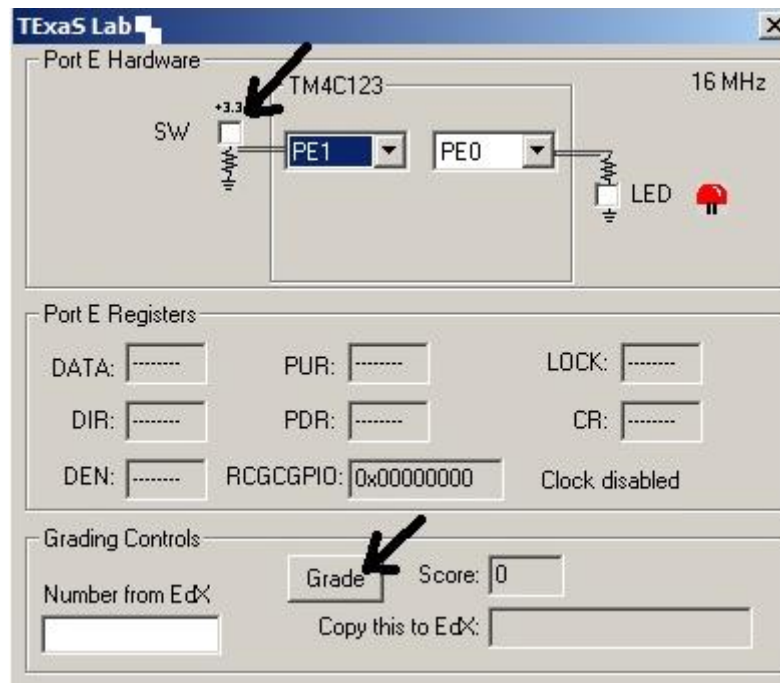
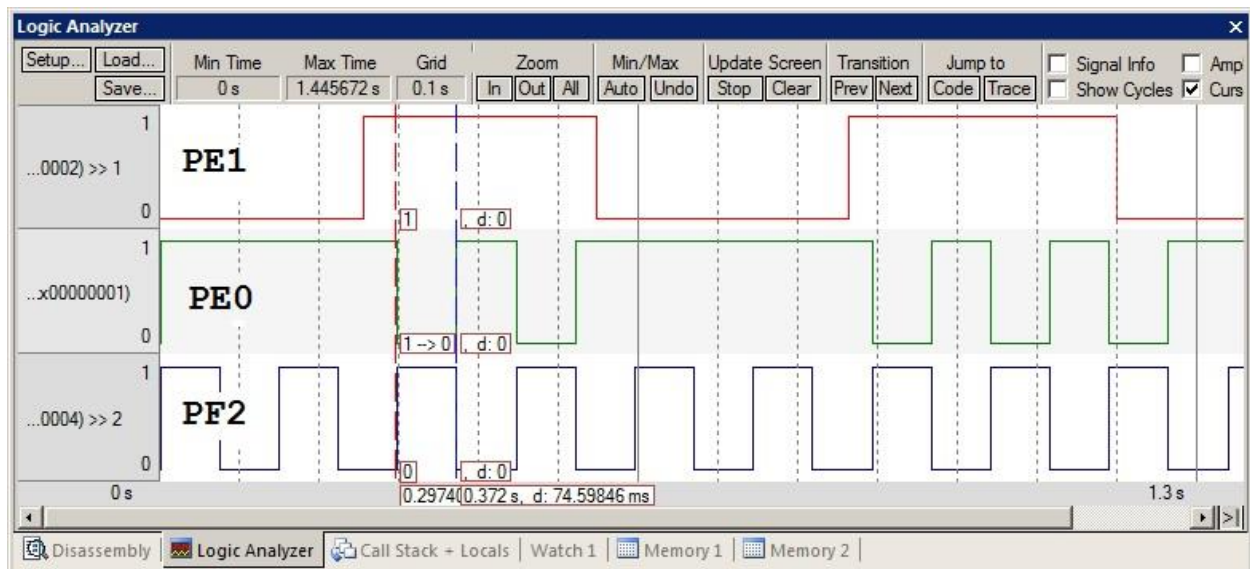
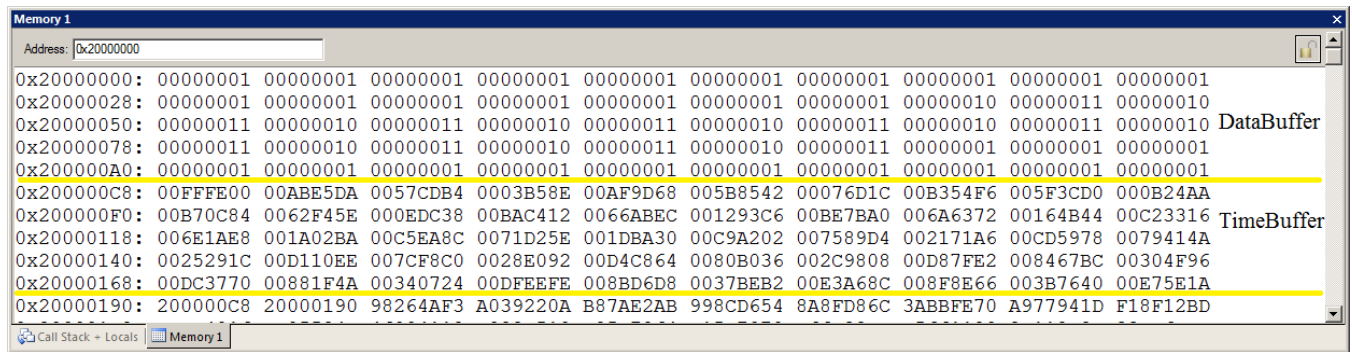

Figure 6.2. Using TExaS to debug your software in simulation mode
Figure 6.3. Simulation output showing the input on PE1, output on PE0 and heartbeat on PF2.
Figure 6.4. Similar data is observed in the memory window in simulation and on the real board showing results of the dump.
Debug your combined hardware/software system first with the simulator, then on the actual TM4C123 board. Figure 6.1 shows how to configure the Lab 6 simulator, and Figure 6.2 is the TExaS emulator GUI. Figure 6.3 is screenshot of Lab 6 in simulation mode. You can find the address of the buffers by looking in the map file. You can dump the memory to a file using the command (the data is formatted in a little-endian hexadecimal format) **'SAVE data.txt 0x20000000 , 0x20000190'** replacing the values 0x20000000 and 0x20000190 with the start and end addresses of your arrays. Figure 6.4 shows in simulation the contents of the two buffers containing the information for debugging purposes.
1. A screenshot showing the system running in simulation mode. In the screenshot, show the dumped data in a memory window and the I/O window, as illustrated in Figures 6.3 and 6.4.